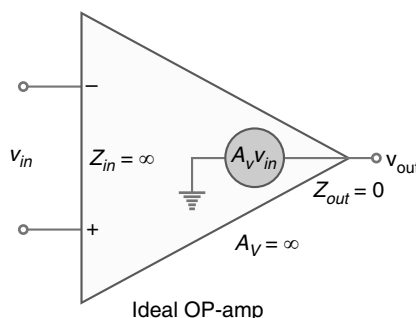

Fig. 23.43
- (ii) **Ideal OP-amp.** Fig. 23.43 shows the a.c. equivalent circuit of an ideal *OP*-amp. The characteristics of an ideal *OP*-amp are : *infinite voltage gain*, *infinite input impedance* and *zero output impedance*. The consequences of these properties of an ideal *OP*-amp are :